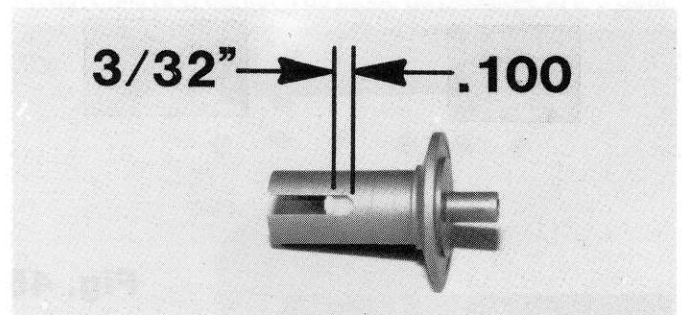

Fig. 43
□ **Fig. 43** There should now be approximately a $3/32$ " or $.100$ " gap where shown.